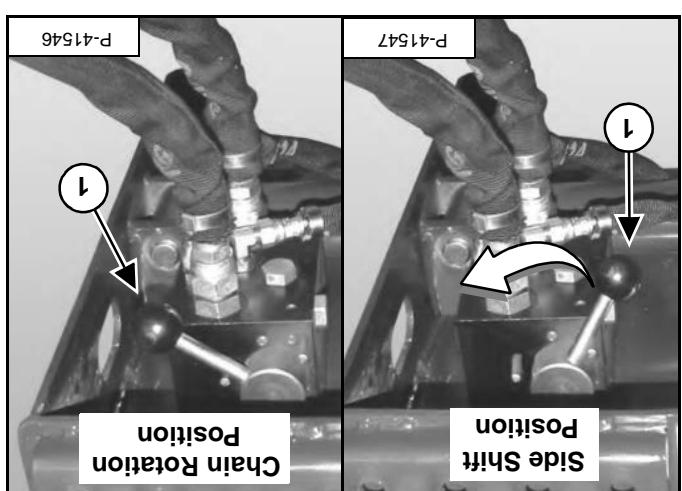

Figure OI-74
Move the selector valve lever (item 1) to the chain rotation position [Figure OI-74].